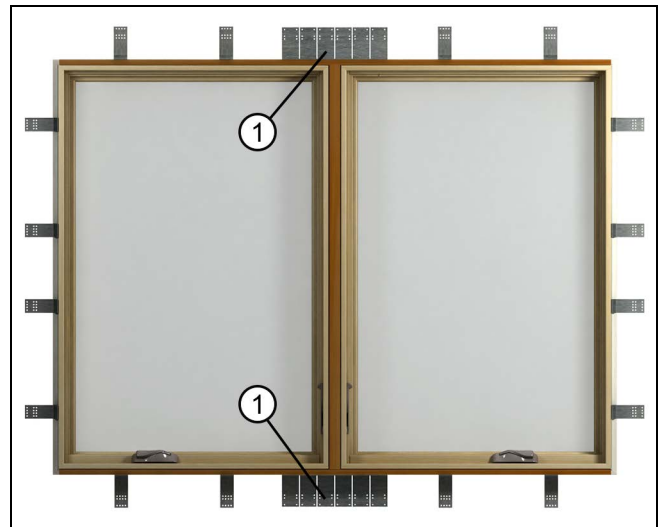
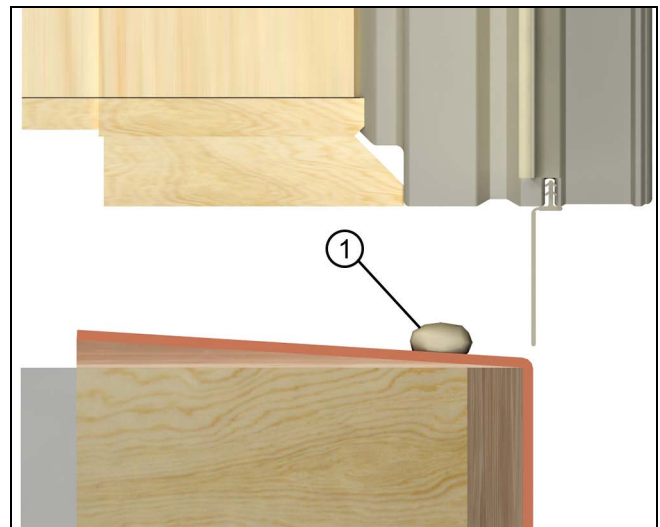

Figure 5 Structural mull brackets
Figure 6
1. All impact rated windows (except Round Tops) must be adhered to the sill with a discontinuous 5/16" (8) bead of sealant on the framing sill where it will contact the window or door frame sill. See figure 5. Leave approximately 2" (51) gaps on the ends. See figure 6. For Impact door installation methods refer to the general door installation instructions (part number 19915634) and the product specific installation instructions for your product.